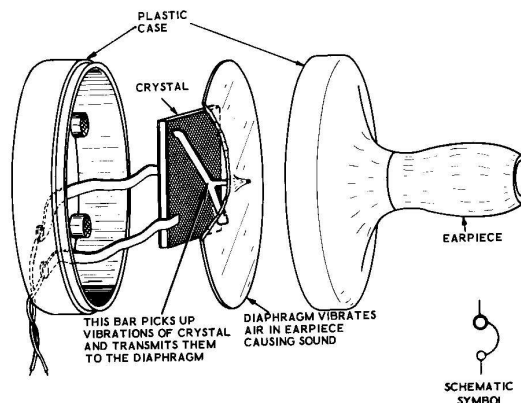

Figure 7J
**The EARPHONE:** The earphone shown in Figure 7J works on exactly the same principle as a crystal microphone, except that it is used in the reverse direction. The audio signal causes the crystal to vibrate at the same frequency as the original sound. The vibrating crystal is connected mechanically to a diaphragm. When the crystal moves the diaphragm, the diaphragm moves a column of air, and these vibrations of air are heard in your ear as sounds.